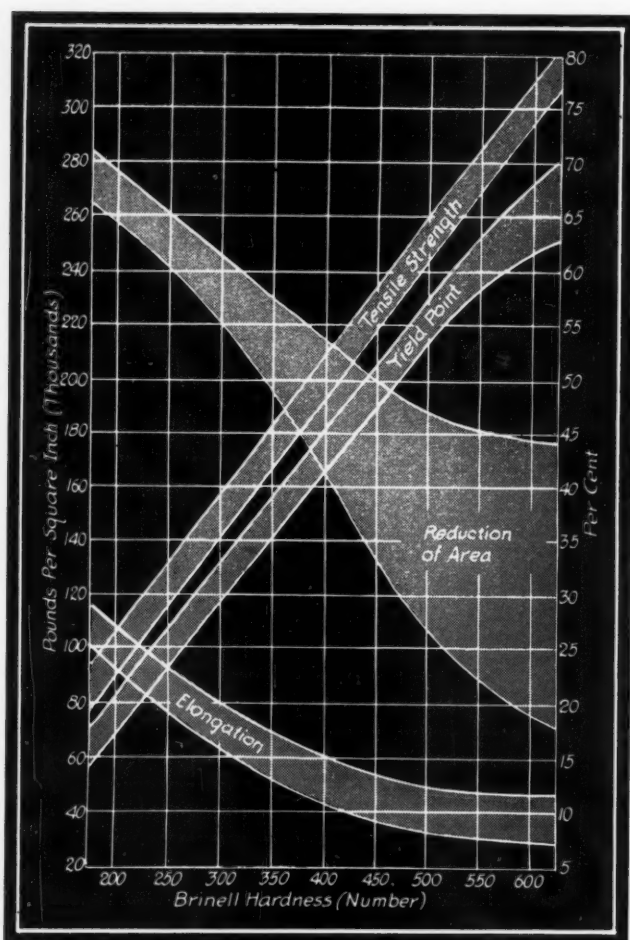

Fig. 103—Variations in physical properties of a number of SAE alloy steels, varying in carbon from .3 to .45 per cent. Heat treated to the same hardness
There is amazingly little to choose between steels heat treated and tempered to the same hardness. Janitsky and Baeyertz (14) investigated alloy steels varying in carbon from .3 to .45 per cent, both water and oil quenched. Fig. 103 is reproduced from their data. The greater variation in values at high hardnesses may well be explained by the lower reliability of such data. Quenching stresses, notches, etc., are of much greater import.